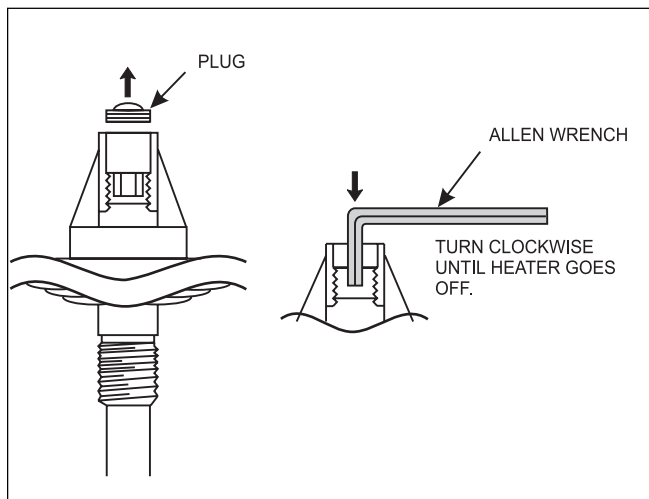

Figure 20. Pressure Switch Adjustment.
6. Use a 7/32 inch (5.55 mm) Allen wrench to turn the adjustment screw very slowly clockwise until the heater goes off (see Figure 20).